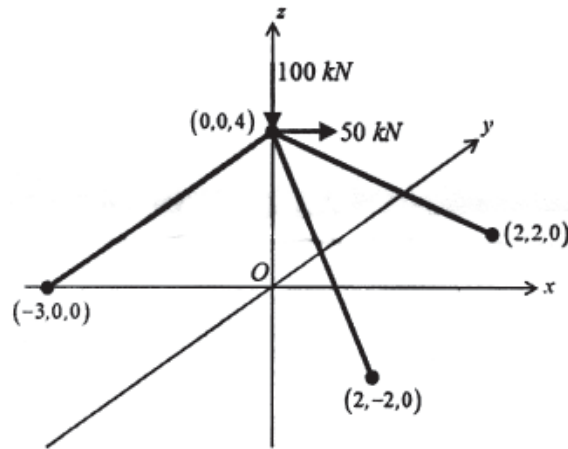

Figure 9
- Q7)** The tripod shown in Figure 9 is subjected to horizontal and vertical loads. Determine the deflections at the loaded joint using stiffness matrix method. Take $E = 200 \text{ GPa}$ and c/s area of all members 2000 mm^2 . [16]